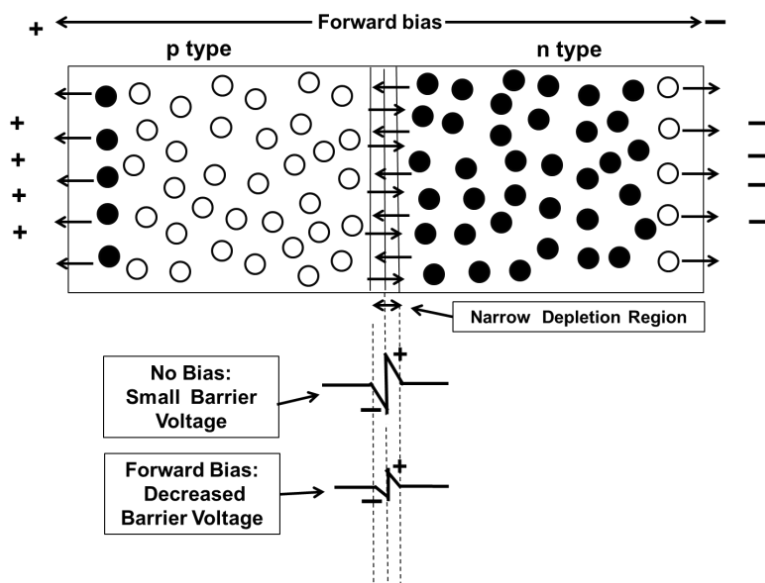

Fig 1.10 Forward biased p-n junction
Refer figure 1.10.
- This biasing arrangement decreases the barrier voltage, as shown in the figure 1.10.